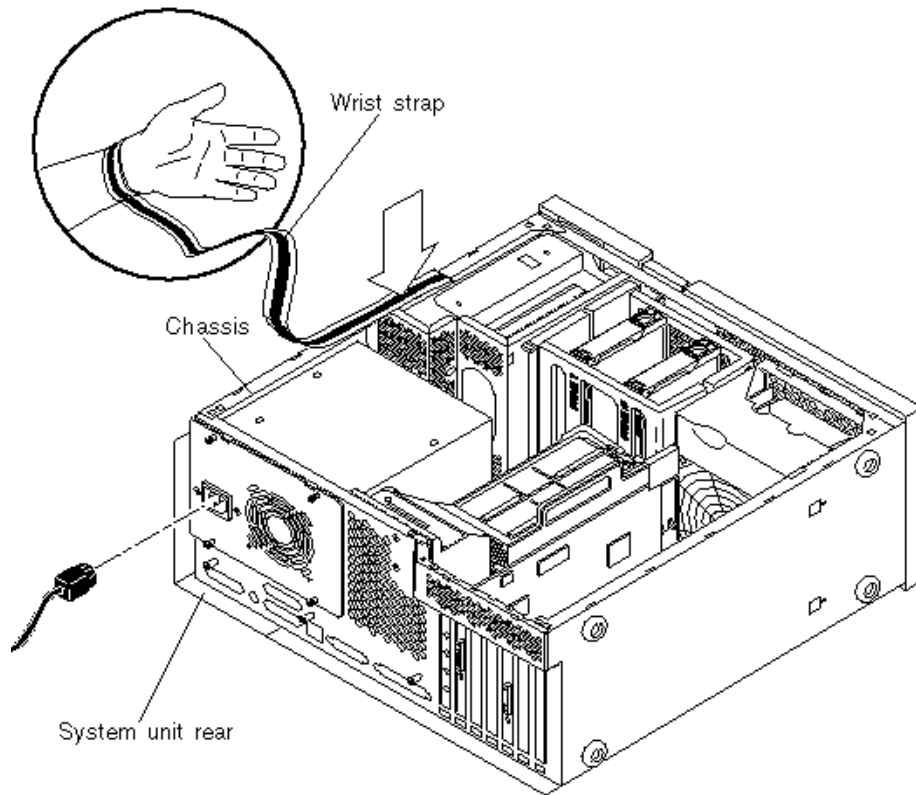

Figure 7-3 Attaching the Wrist Strap to the Chassis
3. Attach the copper end of the wrist strap to the chassis (Figure 7-3).